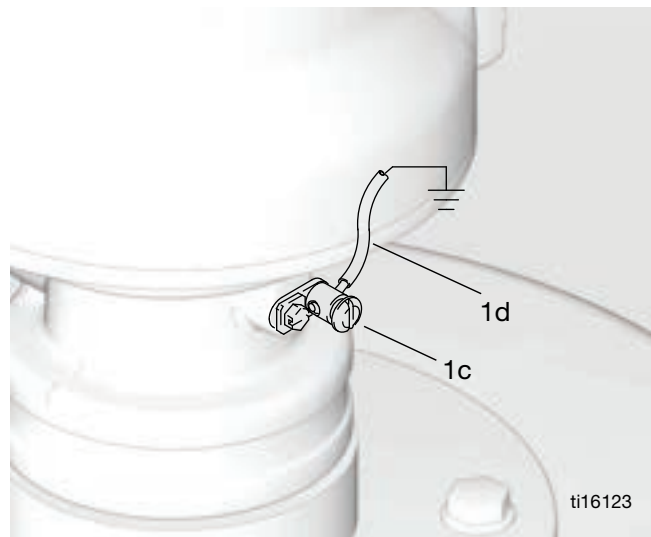

FIG. 1
**Pump:** Use ground wire and clamp (FIG. 1).